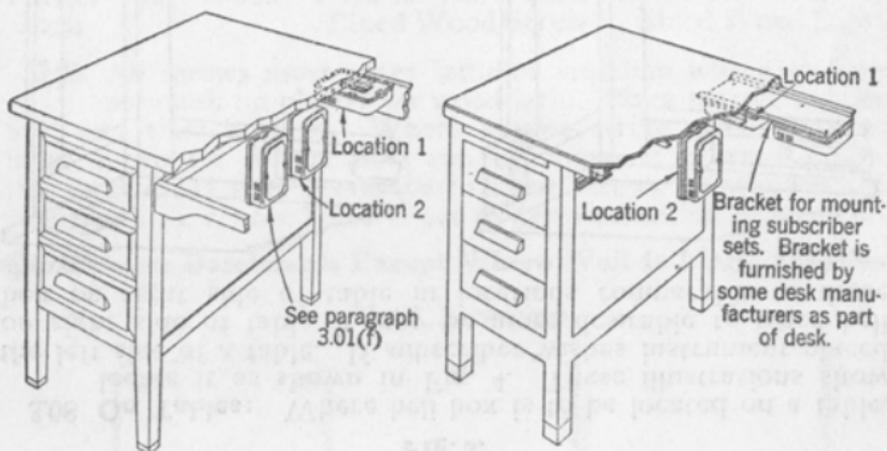
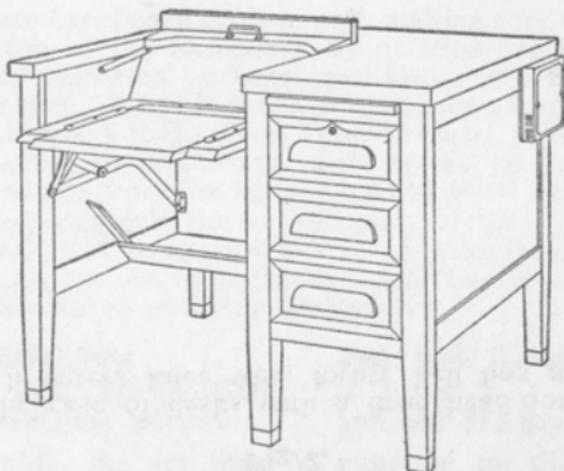

Fig. 2.
Fig. 3.
3.05 **On Desks:** Where bell box is to be located on a desk, locate it as shown in the typical illustrations, Fig. 2 or Fig. 3. These illustrations show the two types of desks usually encountered. The two types of desks are as follows:
3.06 In the case of (a) above, the left pedestal of wood and metal desks is shown in Fig. 2. It may, however, be more desirable to locate bell box on right pedestal if subscriber
3.07 In the case of desks with a drop head for typewriter which enters knee well, locate bell box as shown in Fig. 3.